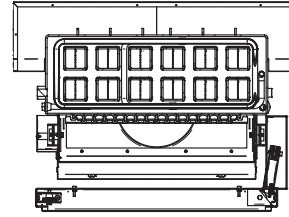

Fig. 5a
2. Turn the turbulator diagonally (**Fig. 5a**) and